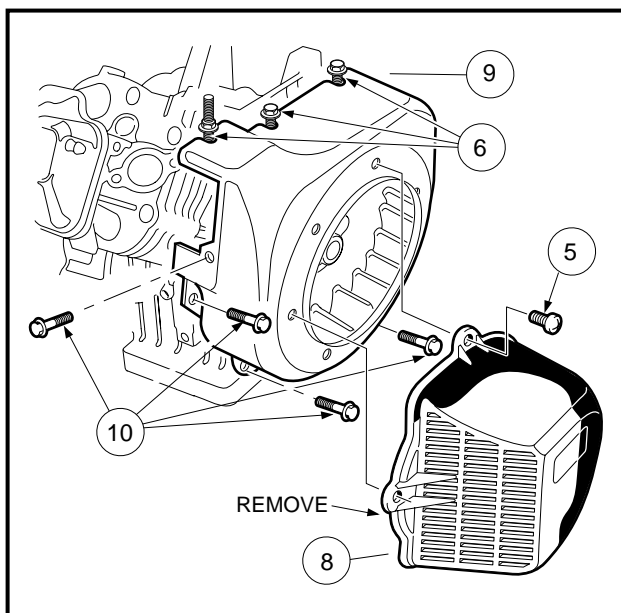
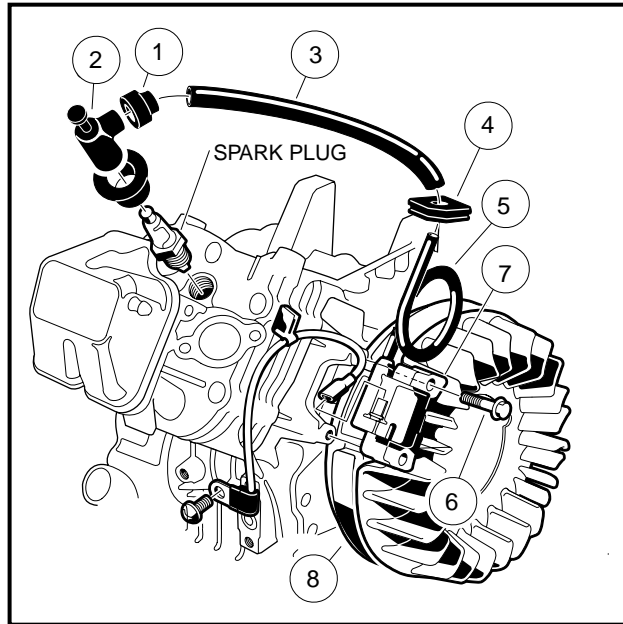

Figure 12-26 Remove Fan Housing
Figure 12-28 Clean Grommet
6. Remove the pan head bolts (5) securing the fan shroud (8) to the fan housing (9) (**Figure 12-26, Page 12-26**).
7. Loosen but do not remove three bolts (6) attaching the fan housing as shown.
8. Remove the remaining four bolts (10) attaching the fan housing as shown (**Figure 12-26, Page 12-26**), then while opening the housing, detach the spark plug wire grommet (4) from the housing (**Figure 12-28, Page 12-27**).
1. Remove the rubber gasket (1) on the plug cap (2) by rolling back the gasket onto the spark plug wire.
2. Remove the cap (2) from the wire by turning the cap counterclockwise three or four revolutions while gently pulling it off the wire (**Figure 12-28, Page 12-27**).
3. Remove the gasket (1) and protector tube (3) from the old coil.
14. Install the four remaining flange bolts that secure the fan housing to the engine crankcase. Tighten all seven mounting bolts to 90 in-lb (10.2 N·m) **(Figure 12-26, Page 12-26)**.
16. Install the fan shroud with four pan head bolts. Tighten the hardware to 50 in-lb (5.7 N·m) **(Figure 12-26, Page 12-26)**.